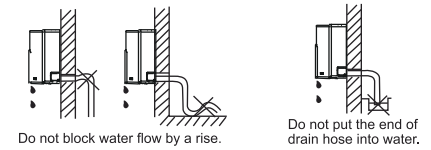

Fig.7
1. Run the drain hose sloping downward. Do not install the drain hose as illustrated in Fig.7.